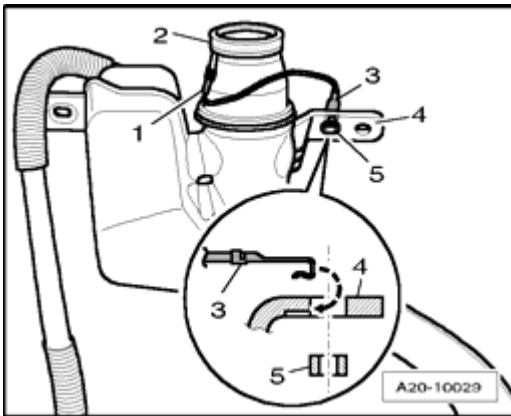

Fig. 2: Installation Position Of Ground (GND) Connection
- Route Ground (GND) connection as shown in **Fig. 2**.